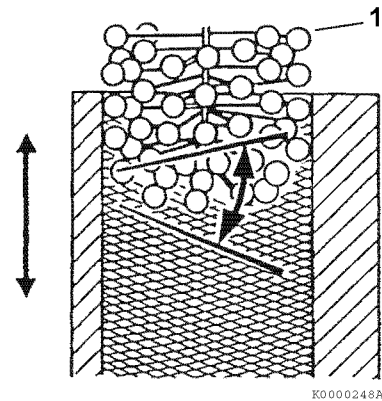

Figure 6-79
*Note: When honing a cylinder, with either a ridged hone or a ball hone (1, **Figure 6-79**), move the rotating hone up and down in the cylinder bore to accomplish a 30° to 40° crosshatch pattern (**Figure 6-79**). This will provide the ideal surface for the proper seating of new piston rings.*